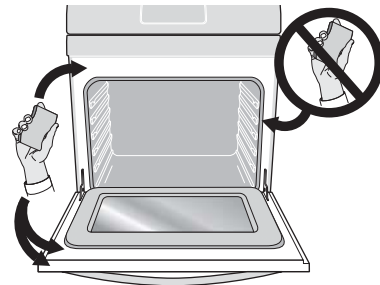

Figure 29: Clean around the oven door gasket
- Do not clean the oven door gasket (Figure 29). The woven material of the oven door gasket is essential for a good seal. Care should be taken not to rub, damage, or remove the gasket.
- Clean any soil from the oven frame, the door liner outside the oven door gasket, and the small area at the front center of the oven bottom. These areas heat sufficiently to burn soil on. Clean with soap and water. These areas are shown in white (Figure 29).